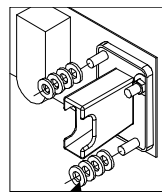

Figure 3.
- Place (item 1) (4) flat washer onto each studs as shown. See Figure 3. Both sides.